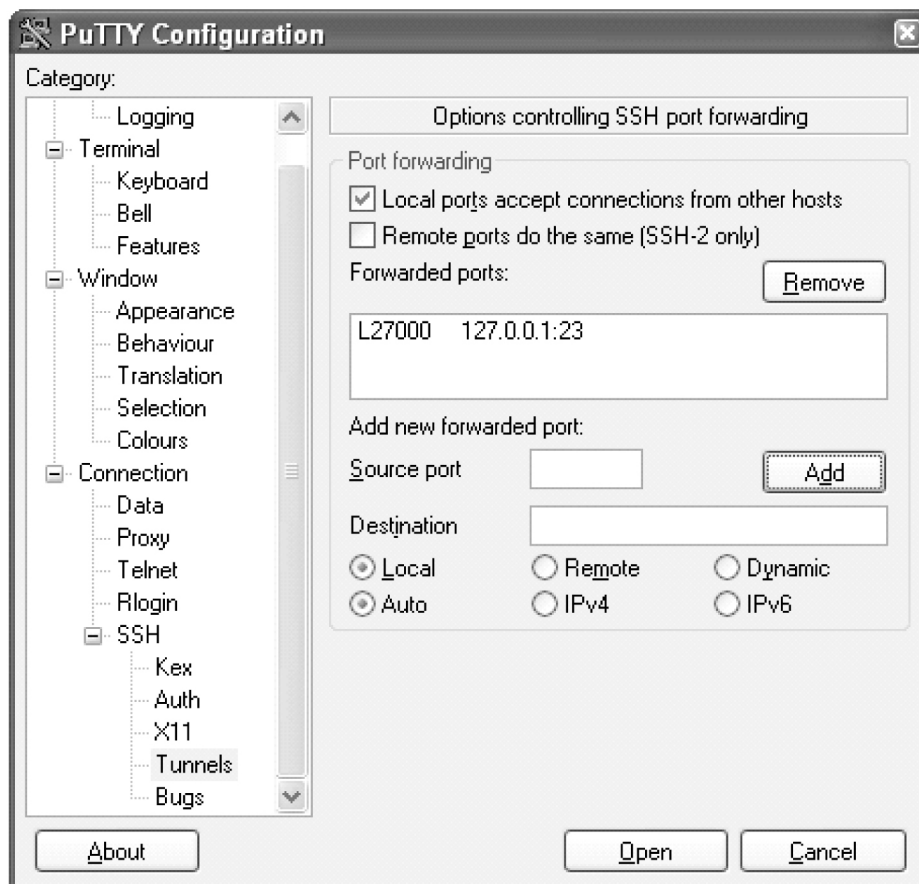
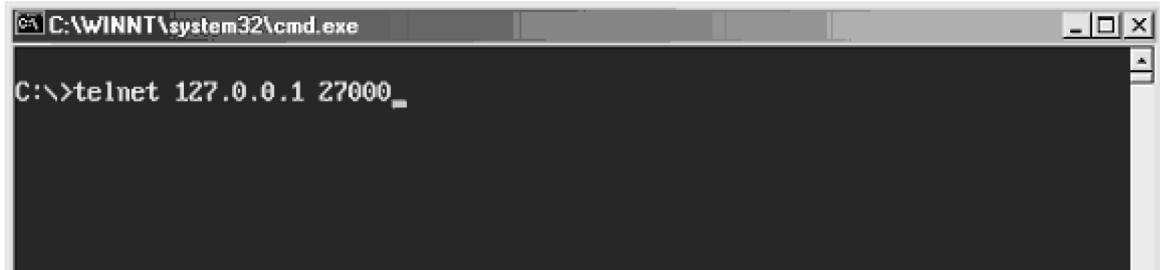

Figure 19: PuTTY Configuration Window - SSH Tunnel/Port Forwarding Completion
**Figure 23: Telnet Connection to Local Host Forwarded Port**
The forwarding port (**Source port** value) and the IP address and port of the remote machine (the **Destination** value) appear in the **Forwarded ports:** box and the **Source port** and **Destination** boxes are empty. See Figure 19: PuTTY Configuration Window - SSH Tunnel/Port Forwarding Completion.
18. Initiate a telnet connection to the local host at the forwarded port configured in step 14 (see Figure 19: PuTTY Configuration Window - SSH Tunnel/Port Forwarding Completion).
At the prompt, enter the `telnet` command with the IP address and Source port value shown in Figure 19: PuTTY Configuration Window - SSH Tunnel/Port Forwarding Completion. For this example, enter the `telnet` command with the IP address 127.0.0.1 and the source port value 27000, as shown in Figure 23: Telnet Connection to Local Host Forwarded Port. Press the **Enter** key.